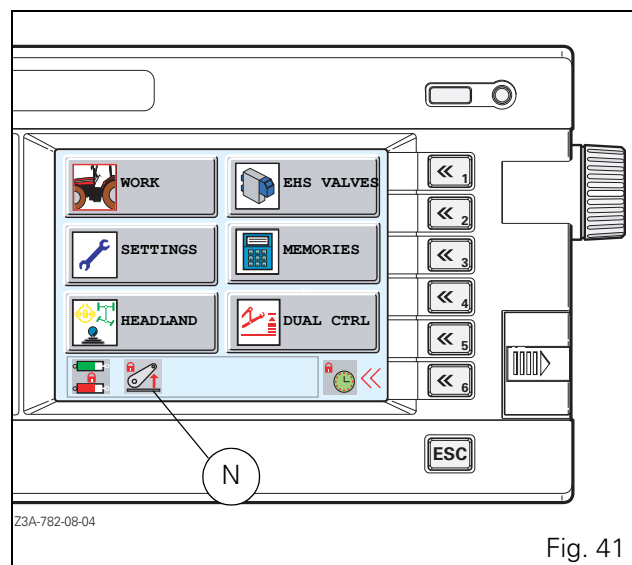

Fig. 41
N. Linkage console locking indicator light (Data 3 option, Fig. 41)